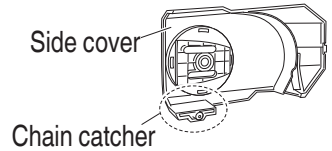

Fig. 44
5. **Cleaning the chain brake (Fig. 44)**